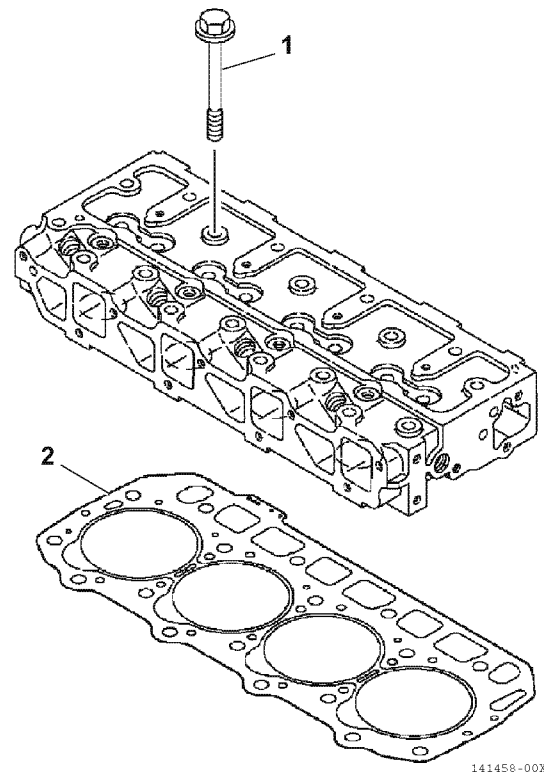

Figure 6-13
2. Remove the cylinder head bolts (1, **Figure 6-13**).
3. Lift the cylinder head away from the cylinder block. Discard the cylinder head gasket (2, **Figure 6-13**). Position the cylinder head on the work bench to prevent damage to the combustion surface.